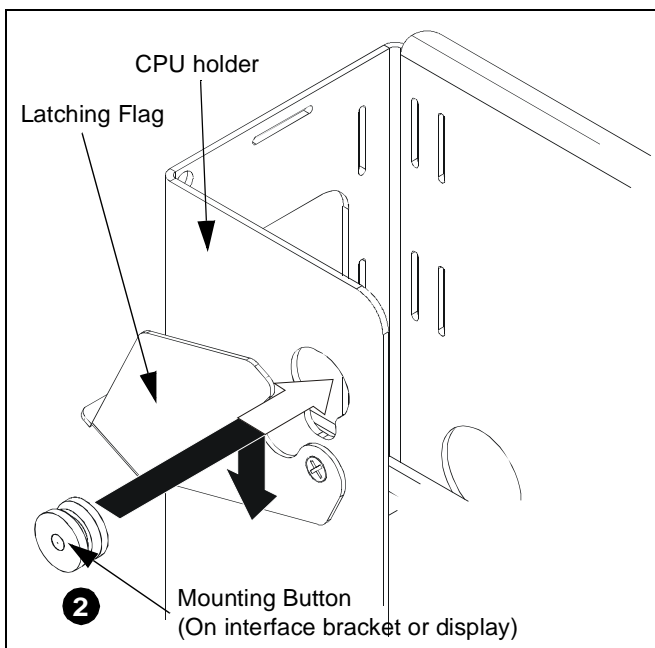

Figure 5
2. While supporting each side of display, align four mounting buttons on display or interface bracket with four teardrop slots in CPU holder (See Figure 5).